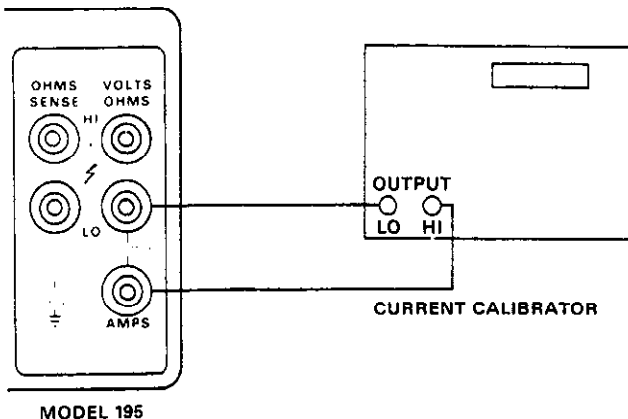

Figure 7-6. Current Calibration Connections
1. Connect the calibrator to the Model 195 as shown in Figure 7-6.